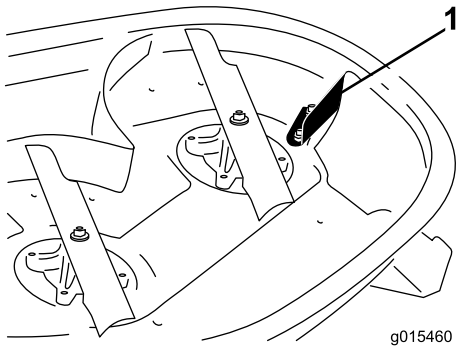

Figure 1
8. Some models have a cut-off baffle located near the discharge opening (Figure 1). Remove the baffle if it is present. Retain the parts for future use.